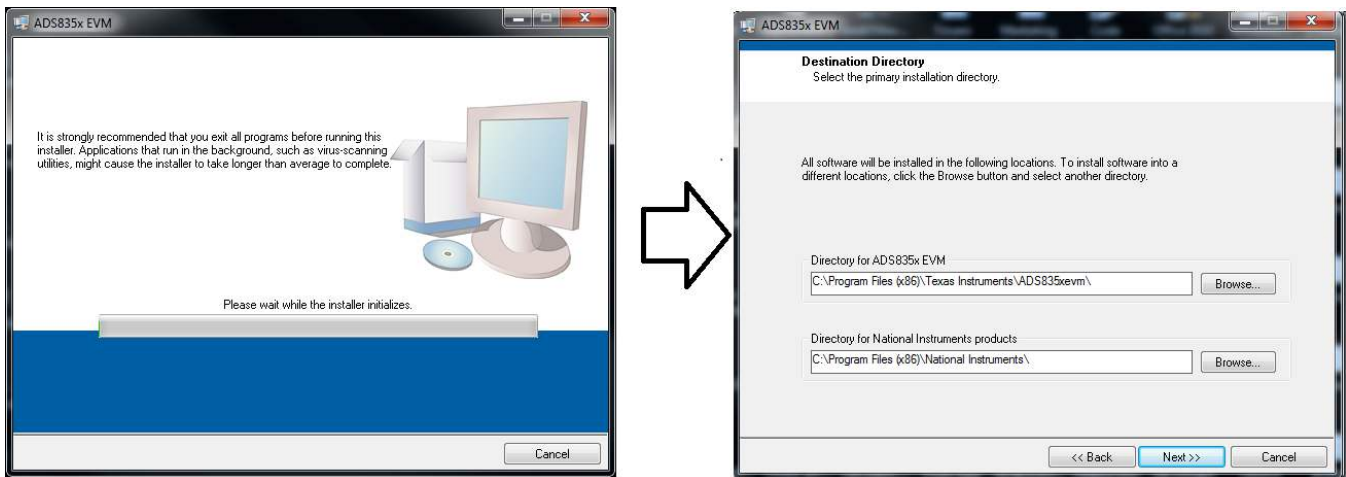

Figure 11. Welcome Screen and Destination Directory Screens
5. A prompt appears with the destination directory; select the default directory under: ...|Program Files(x86)|Texas Instruments|ads835xevm), as shown in Figure 11.